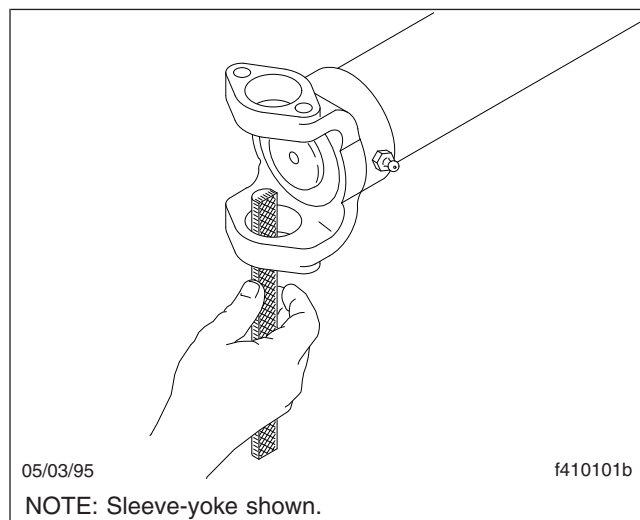

Fig. 3, Removing Burrs From a Full-Round Yoke Cross-Hole
5. With the U-joint assemblies removed, check all driveshaft yoke cross-holes for raised metal. Using a rat-tail or half-round file, remove burrs or raised metal. See Fig. 3.